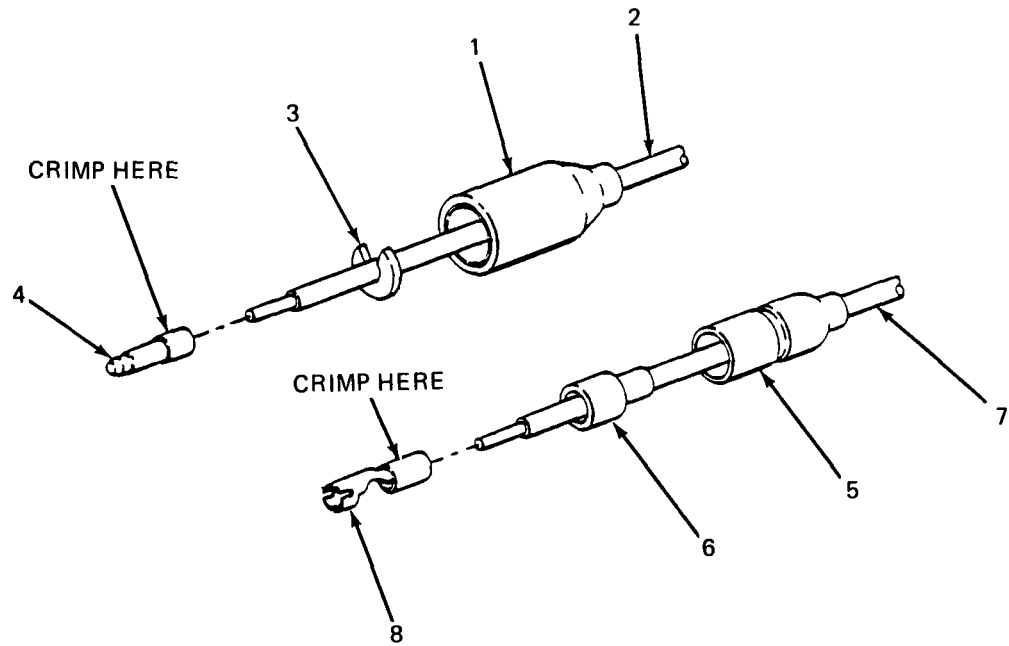

Figure 4-15. Taillight Cable Assembly and Electrical Lead Repair.
- (b) Remove nut (6) and flat washer (7) from load terminal L0 (8) inside switch box (5).
- (c) Slide power cable ground (white) wire terminals (9) and switch box ground wire terminal (10) off load terminal L0 (8).
- (d) Remove nut (11) and flat washer (12) from AC GROUND terminal E2 (13) inside switch box (5). Side ground wire terminal (14) off terminal E2.
- (a) Install switch box ground wire terminal (14) on AC GROUND terminal E2 (13) and secure with flat washer (12) and nut (11).
- (b) Install other switch box ground wire terminal (10) on load terminal L0 (8). Install power cable ground (white) wire terminals (9) on terminal L0 and secure both wires with flat washer (7) and nut (6).
- (c) Position cover (4) on switch box (5) and secure with 16 screws (1), 16 lockwashers (2) and 16 flat washers (3).
a. Male Connector Replacement. (See figure 4-15.)
- (1) Slide shell (1) back on wire lead (2).
- (2) Remove washer (3).
- (3) Slide shell (1) off over contact (4).
- (4) Cut off contact (4).
- (5) Strip insulation off wire lead (2) equal to depth of new contact (4).
- (6) Slide shell (1) and washer (3) of new connector onto wire lead (2).
- (7) Slide contact (4) onto stripped wire and solder in accordance with TB SIG 222.
- (8) Crimp contact onto wire.
- (9) Slide shell (1) forward over washer (3) and contact (4).
b. Female Connector Replacement. (See figure 4-15.)
- (1) Slide shell (5) and sleeve (6) back on wire lead (7).
- (2) Cut off contact (8).
- (3) Slide shell (5) and sleeve (6) off wire lead (7).